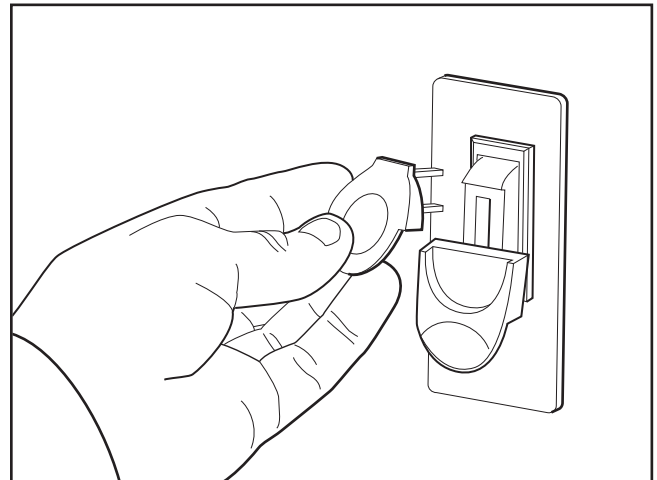

Figure 12. Disabling switch.
6. Remove the safety keys (**Figure 12**) and attempt to turn the machine **ON**.